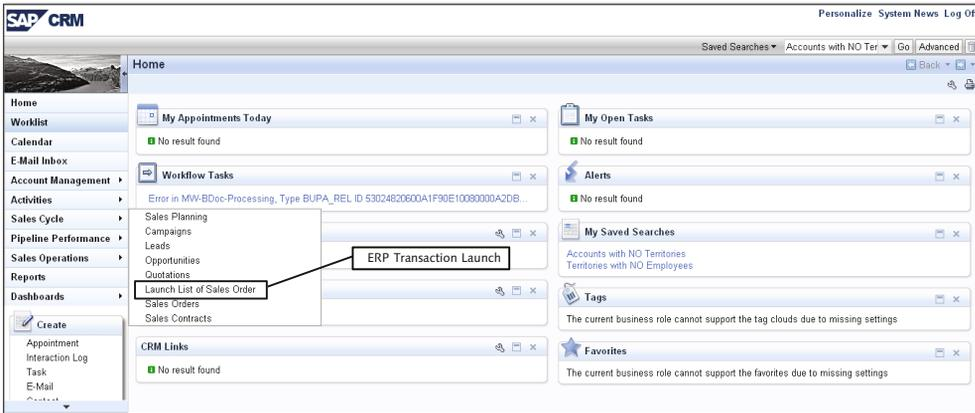
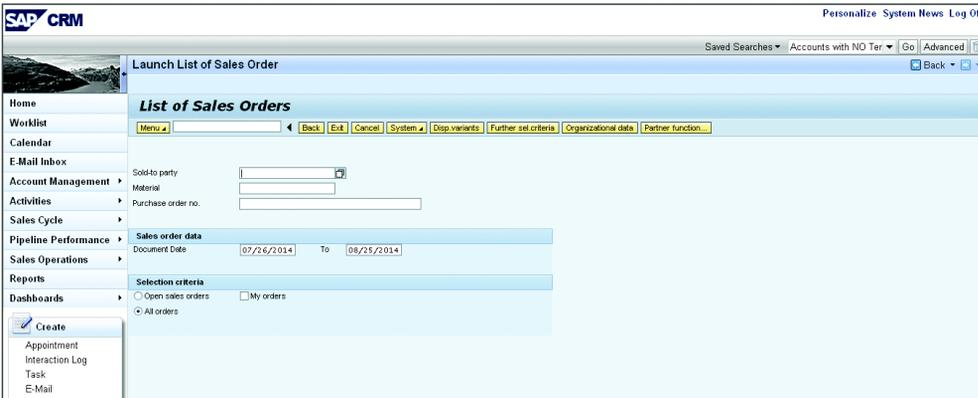

Figure 8.56 Launch List of Sales Order
Figure 8.57 Transaction VA05 Launched
- Activate the Transaction Launcher logical link in the business role, and then access the business role, as shown in Figure 8.56. The link to the Transaction Launcher is visible, and when you click the LAUNCH LIST OF SALES ORDERS link, the SAP ERP transaction is called and opens up, as shown in Figure 8.57.